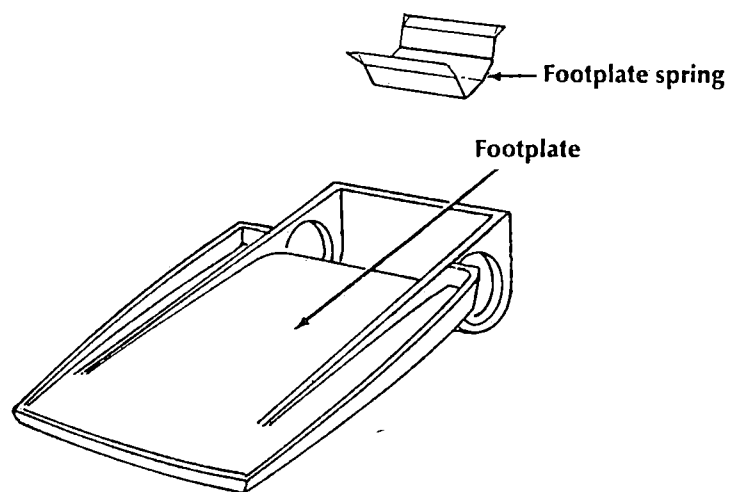

Figure 5
3. Install a replacement spring. Make sure it faces the same direction as the old spring. It should snap into place. Compare your spring to the one shown in figure 5.